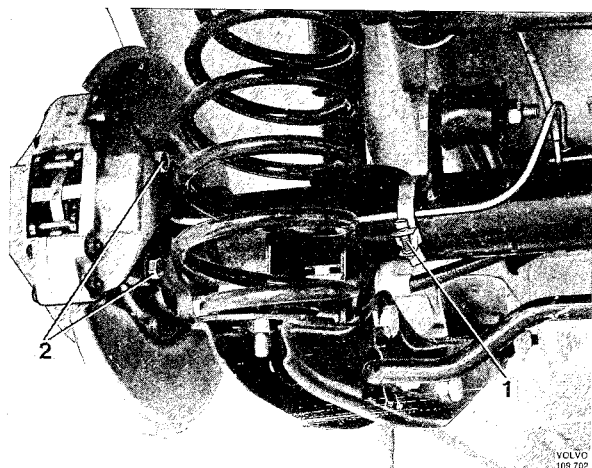

Fig. 5-84. Brake components
3. Remove the clamp (1, Fig. 5-84) for the brake line. Screw out the retaining screws (2) for the caliper.
12. Clamp the brake line to the rear axle (Fig. 5-84).
6. Remove the clamp (1, Fig. 5-84) for the brake line. Remove the retaining screws (2) for the caliper.
21. Clamp the brake line to the rear axle (Fig. 5-84).